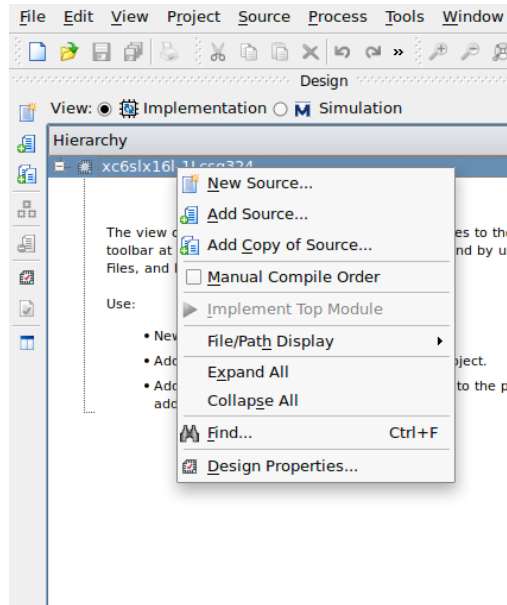
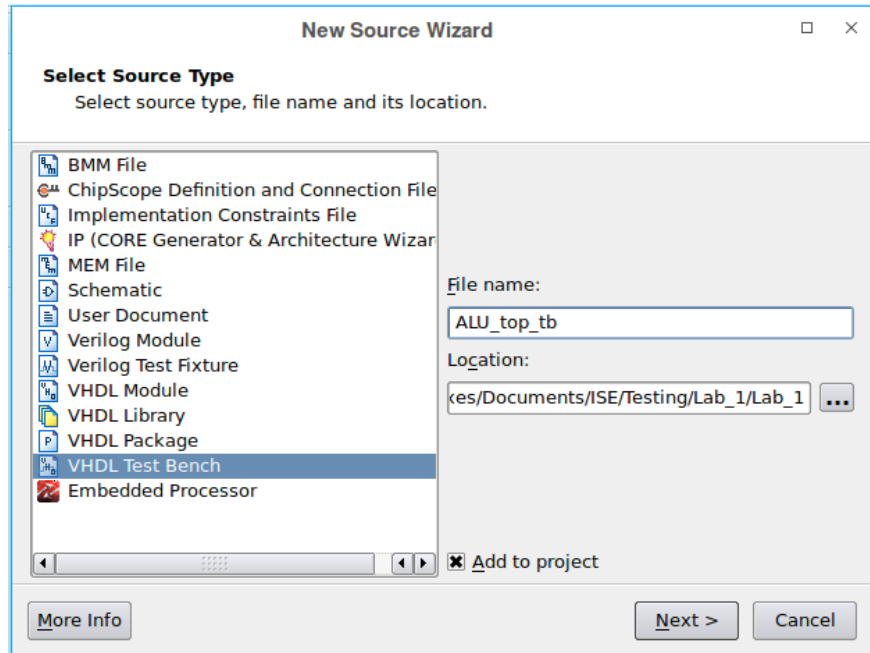

Figure 1: VHDL Module Creation
Figure 3: Test Bench Generation
- (a) Create a new VHDL module for each in Table 1, except Listing 4. Use Figure 1 as a guide. Give the file names the entity names; meaning, create one entity/architecture for each of the six functions. Don't forget to define the entity appropriately. Code for two of the functions are given in the Provided Code section.
(c) Generate a test bench using Figure 3 from the same menu as the other VHDL modules in Figure 1.